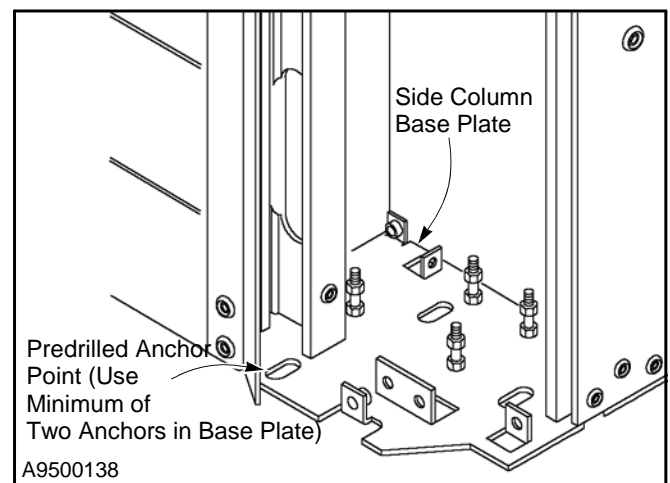

Figure 16
6. Using the predrilled anchor points in the base plate as a reference, mark their location on the floor. (See Figure 16.)